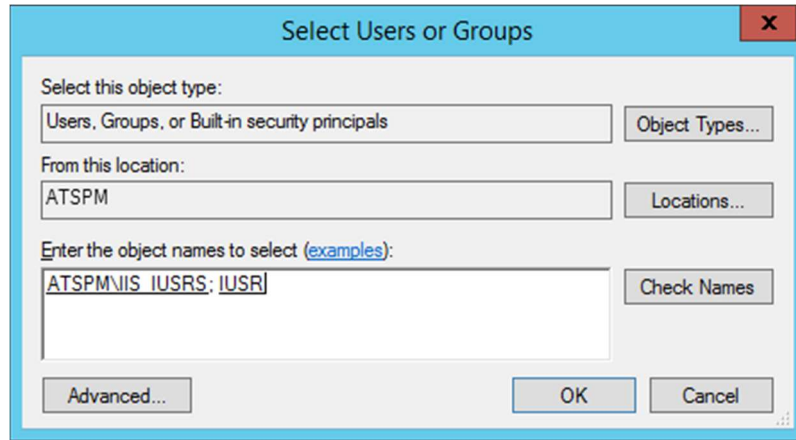

Figure 2: Folder permissions
| Figure 2: Folder permissions | 10 |
4. Add IUSR and IIS_IUSRS roles to the website physical path folder (Figure 2):